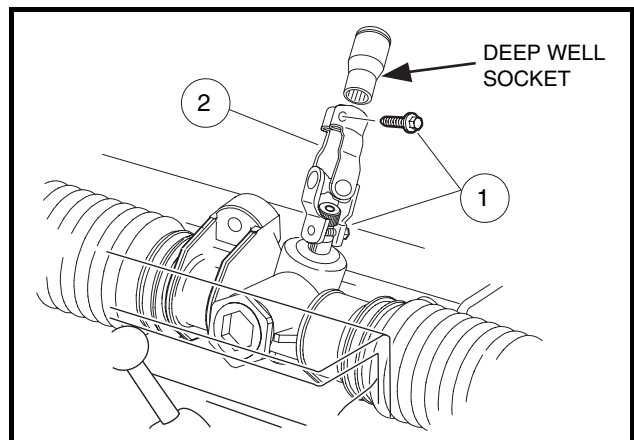

Figure 7-13 Rack and Pinion Resistance
11. Insert a 3/8-inch, 1/4-drive, deep-well socket into the steering column end of the universal joint (2) and tighten the bolts (1) to 15 ft-lb (20.3 N·m) (**Figure 7-13, Page 7-9**).